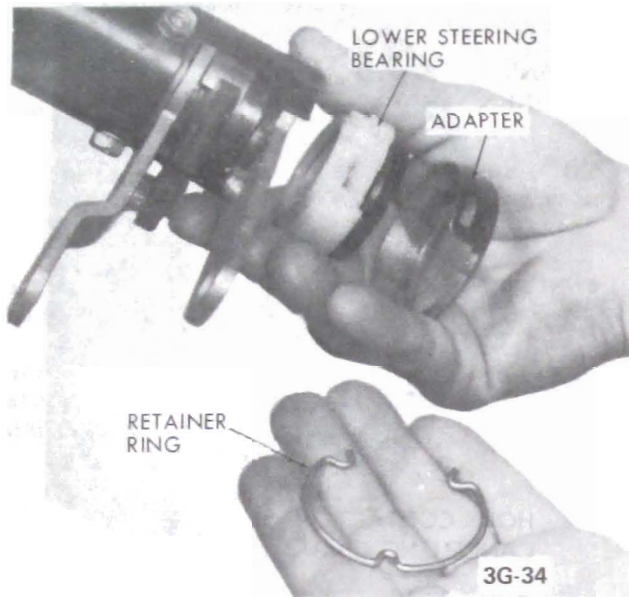

Figure 3G-54 - Installing Lower Steering Column Bearing - Manual Transmission
(Manual Transmission) Assemble the first/reverse lever and adapter assembly into the bottom of the jacket. Holding the adapter in place, insert the snap ring in the jacket slots. See Figure 3G-54.
5. (Manual Transmission Only) Place a .005 shim between first/reverse lever and lever spacer and turn upper shift bearing down and tighten the three screws. Remove shim. See Figure 3G-55.